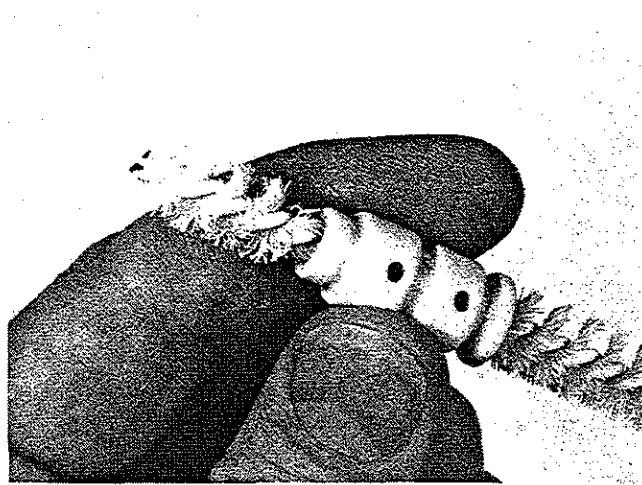

FIGURE 25
4.2 Particular attention should be paid to the ceramic switch. Use an abrasive type cleaner sparingly with a toothbrush and small diameter brush (Fig. 25) to clean completely. The clearance between the spindle and bushing is normally 0.0001 inch. These contacting surfaces should be thoroughly cleaned and rinsed in distilled water, if available, and blown dry with clean compressed air. The shoulders of the spindle should not be handled in any way once cleaned.